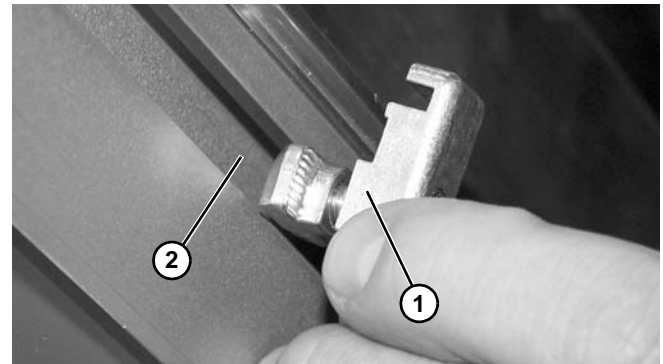

**Figure 26**
1. Loosen screws (Figure 26, item 1).
2. Install dust cover (Figure 26, item 2) behind screw heads and over access slot. Tighten screws (Figure 26, item 1).